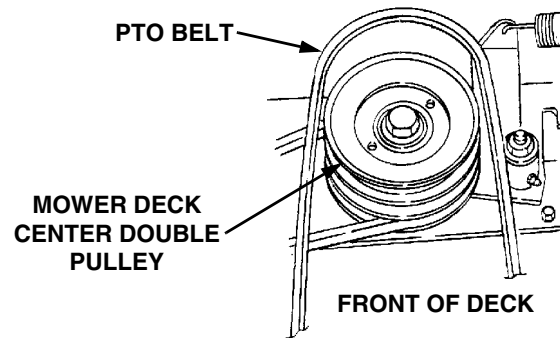

Figure 36
13. Install the rearward end of the PTO belt on the upper pulley of the deck center double-pulley (Refer to Figure 36). Ensure that the narrow side of the belt engages the groove of the upper pulley, and that there is no more than a 1/4 twist in the belt between the front pulleys and the double pulley.